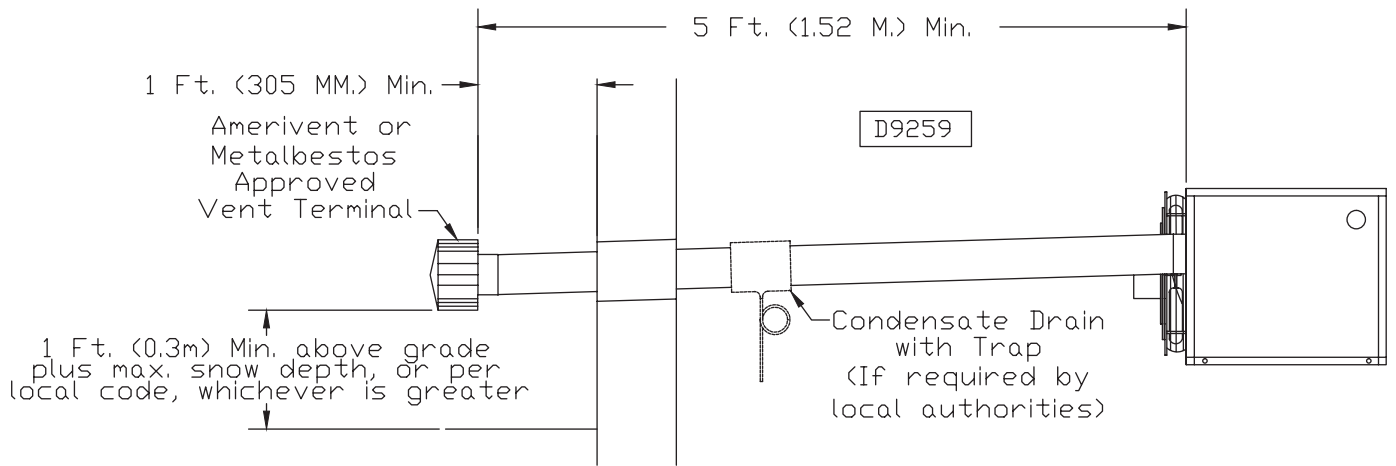

Figure 7 – Category III Horizontal Venting Requirements Using Single Wall Vent Pipe
HORIZONTALLY VENTED UNIT HEATERS (CATEGORY III) - FIGURES 7, 8A & 9A
6. Through the wall venting for these appliances shall not terminate over public walkways, or over an area where the condensate or vapor could create a nuisance, hazard, or could be detrimental to the operation of regulators, relief valves, or other equipment, see Figures 7, 8A, 9A, and Table 5.
8. The vent system must be installed to prevent collection of condensate. Pitch horizontal pipes downward 1/4 inch per foot (21mm per meter) toward the outlet for condensate drainage. Install a tee with a condensate drain at the low point of the pipe (see Figure 7). As an alternate, a 3/8 inch diameter hole may be drilled at the low point of the pipe for condensate drainage.